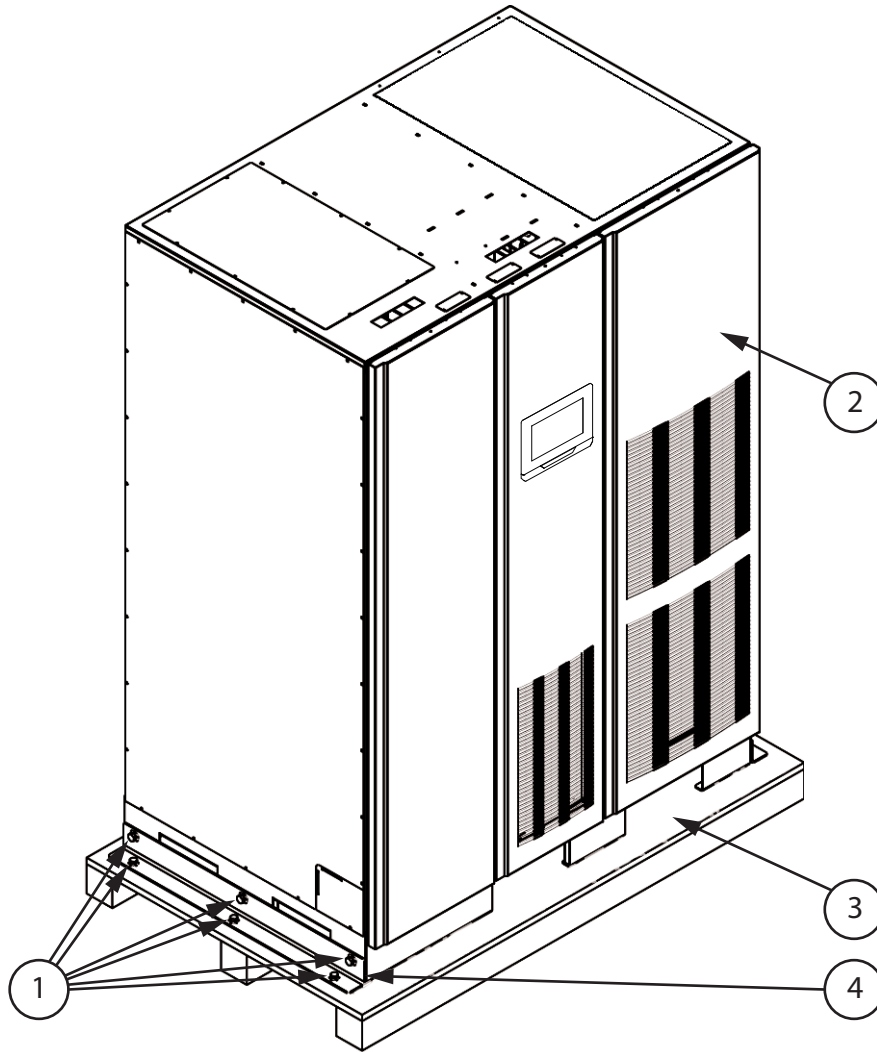
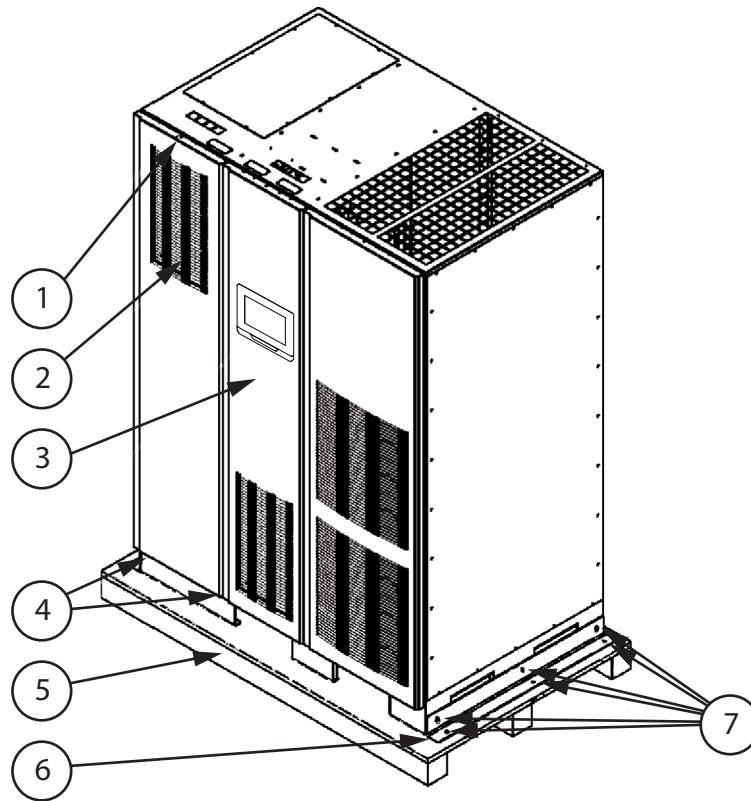

Figure 4-1. Removing left side shipping bracket, ISBM and FI-UPM
Figure 4-2. Removing right side shipping bracket, ISBM and FI-UPM
2. Remove the three bolts securing the left side shipping bracket to the cabinet and three bolts securing the bracket to the pallet (see Figure 4-1). Remove the left shipping bracket. If permanently mounting the cabinet, retain the shipping bracket and securing hardware for later use.
9. Using the retained hardware, reinstall the shipping brackets removed in Steps 2 and 3 to the left and right side of the UPS cabinet with the angle facing outward (see Figure 4-1 and Figure 4-2).
2. Unfasten the front door latch and swing the door open (see Figure 4-2 on page 32).
5. If not already accomplished, remove one top screw and two bottom screws securing the UPS left front panel (see Figure 4-2 on page 32). Lift the panel straight up to remove it from the panel hanger bracket at the top of the cabinet.